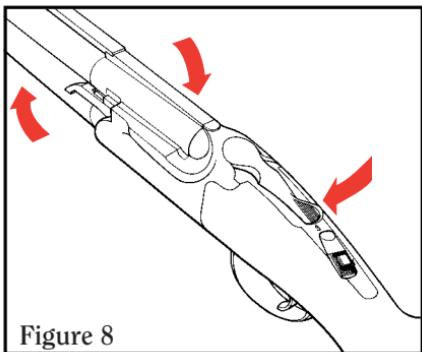

Figure 8
4. Swing the muzzle end of the barrels upward, pivoting the rear end of the monobloc downward to seat in the receiver as shown in Figure 8. The barrel assembly is seated and locked into the receiver when the top lever snaps to its centered position.